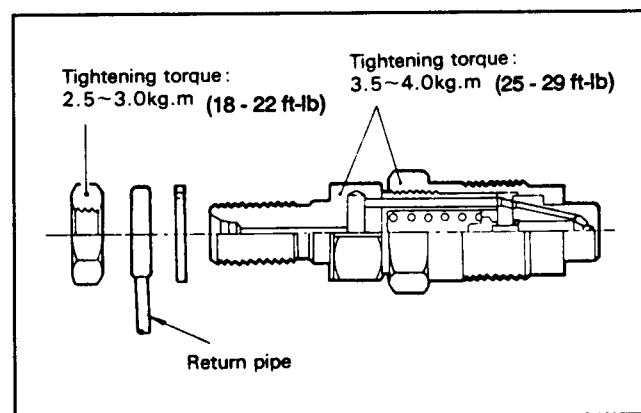

Figure 51
2. Install the shim and pressure spring the body. Assemble the body to the retaining nut. Put the nozzle holder in a vise. Tighten the body and nut to a torque of 3.5 - 4.0 KgM (25 - 29 ft-lb) (Fig. 51).